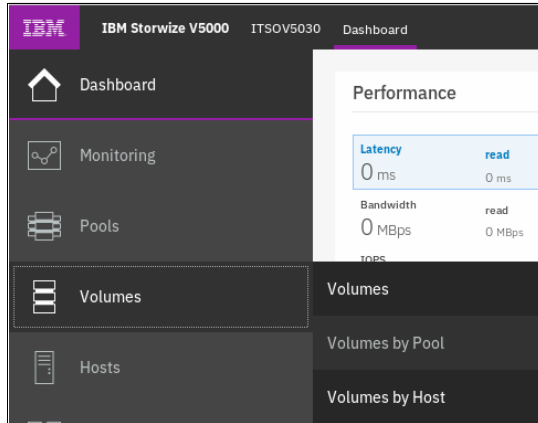

Figure 8-70 Volumes by Host option
1. Click **Volumes by Host**, as shown in Figure 8-70.